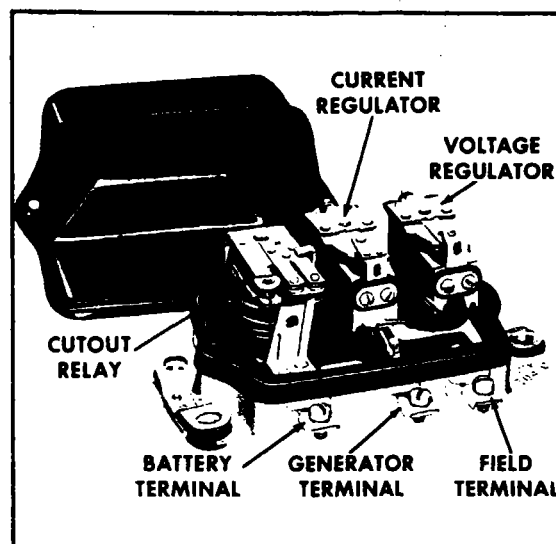

Figure 11-4. Current/Voltage Regulator
11-25. DESCRIPTION OF REGULATOR. The regulator shown in Figure 11-4 consists of a cutout relay, a voltage regulator and a current regulator unit. The cutout relay closes the generator to battery circuit when the generator voltage is sufficient to charge the battery, and it opens the circuit when the generator slows down or stops. The voltage regulator unit is a voltage-limiting device that prevents the system voltage from exceeding a specified maximum and thus protects the battery and other voltage-sensitive equipment. The current regulator unit is a current-limiting device that limits the generator output so as not to exceed its rated maximum.
a. The cutout relay (Refer to Figure 11-4.) has two windings, a series winding of a few turns of heavy wire and a shunt winding of many turns of fine wire (shown in dashed lines). The shunt winding is connected across the generator so that generator voltage is impressed upon it at all times. The series winding is connected in series with the charging circuit so that all generator output passes through it. The relay core and windings are assembled into a frame. A flat steel armature is attached to the frame by a flexible hinge so that it is centered just above the stationary contact points. When the generator is not operating, the armature contact points are held away from the stationary points by the tension of a flat spring riveted on the side of the armature.
a. The voltage regulator (Refer to Figure 11-4.) has two windings assembled on a single core, a shunt winding consisting of many turns of fine wire (shown in dashed lines) which is shunted across the generator, and a series winding of a few turns of relatively heavy wire which is connected in series with the generator field circuit when the regulator contact points are closed.
a. The current regulator (Refer to Figure 11-4.) has a series winding of a few turns of heavy wire which carries all generator output. The winding core is assembled into a frame. A flat steel armature is attached to the frame by a flexible hinge so that it is just above the core. The armature has a contact point which is just below a stationary contact point. When the current regulator is not operating, the tension of a spiral spring holds the armature away from the core so that the points are in contact. In this position the generator field circuit is completed to ground through the current regulator contact points in series with the voltage regulator contact points.